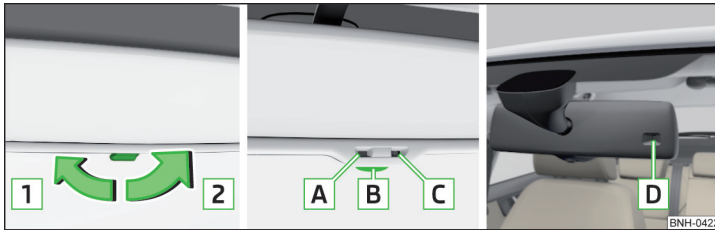

Fig. 49 Interior mirror: manual dimming / auto-dimming / light sensor
**Mirrors with manual dimming** » Fig. 49
**Mirror with automatic dimming** » Fig. 49